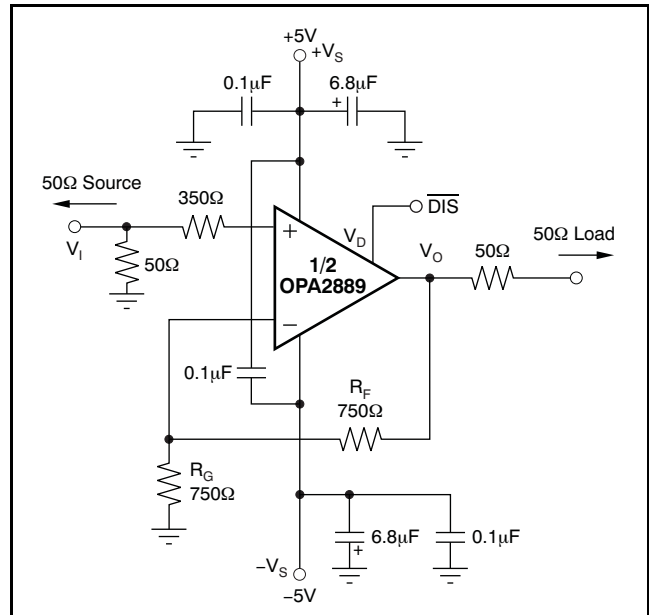
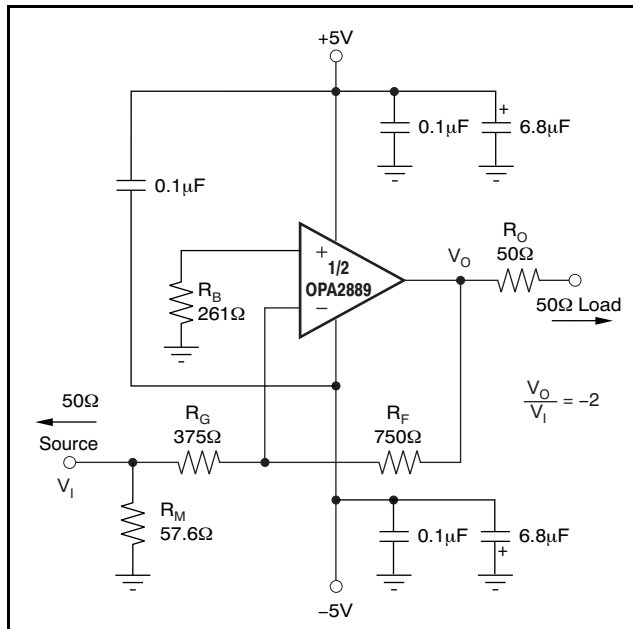

Figure 50. DC-Coupled, G = +2, Bipolar Supply, Specification and Test Circuit
Figure 60. Gain of $-2V/V$ Example Circuit
At $T_A = +25^\circ C$, $G = +2V/V$, $R_F = 750\Omega$, and $R_L = 100\Omega$, unless otherwise noted. See Figure 50.
Figure 50 shows the dc-coupled, gain of +2V/V, dual power-supply circuit configuration used as the basis of the ± 5 V Electrical Characteristics and ± 5 V Typical Characteristics. This illustration is for one channel; the other channel is connected similarly. For test purposes, the input impedance is set to 50 Ω with a resistor to ground and the output impedance is set to 100 Ω . Voltage swings reported in the Electrical Characteristics are taken directly at the input and output pins, while output powers (dBm) are at the matched 50 Ω load. For the circuit of Figure 50, the total effective load will be 100 Ω || 1.5k Ω . The disable control line (MSOP-10 package only) is typically left open for normal amplifier operation. Two optional components are included in Figure 50. An additional resistor (350 Ω) is included in series with the noninverting input. Combined with the 25 Ω dc source resistance looking back towards the signal generator, this resistor gives an input bias current cancelling resistance that matches the 375 Ω source resistance seen at the inverting input (see the DC Accuracy and Offset Control section). In addition to the usual power-supply decoupling capacitors to ground, a 0.1 μ F capacitor is included between the two power-supply pins. In practical printed circuit board (PCB) layouts, this optional-added capacitor typically improves the 2nd-harmonic distortion performance by 3dB to 6dB.
A good rule of thumb is to target the parallel combination of R_F and R_G (see Figure 50) to be less than approximately 400Ω. The combined impedance $R_F \parallel R_G$ interacts with the inverting input capacitance, placing an additional pole in the feedback network and thus, a zero in the forward response. Assuming a 2pF total parasitic on the inverting node, holding $R_F \parallel R_G < 400\Omega$ keeps this pole above 160MHz. By itself, this constraint implies that the feedback resistor R_F can increase to several kΩ at high gains. This increase in resistor size is acceptable as long as the pole formed by R_F and any parasitic capacitance appearing in parallel is kept out of the frequency range of interest.
Voltage-feedback op amps exhibit decreasing closed-loop bandwidth as the signal gain increases. In theory, this relationship is described by the Gain Bandwidth Product (GBP) shown in the Electrical Characteristics. Ideally, dividing GBP by the noninverting signal gain (also called the Noise Gain, or NG) predicts the closed-loop bandwidth. In practice, this principle only holds true when the phase margin approaches 90°, as it does in high gain configurations. At low gains (increased feedback factors), most amplifiers exhibit a more complex response with lower phase margin. The OPA2889 is compensated to give a slightly peaked response in a noninverting gain of 2V/V (see Figure 50). This compensation results in a typical gain of +2V/V bandwidth of 60MHz, far exceeding that predicted by dividing the 75MHz GBP by 2. Increasing the gain causes the phase margin to approach 90° and the bandwidth to more closely approach the predicted value of (GBP/NG). At a gain of +10, the 8MHz bandwidth shown in the Electrical Characteristics agrees closely with that predicted using the simple formula and the typical GBP of 75MHz.
The frequency response in a gain of +2V/V may be modified to achieve exceptional flatness simply by increasing the noise gain to 2.5V/V. One way to modify the response without affecting the +2V/V signal gain, is to add a 750Ω resistor across the two inputs, as shown in the circuit of Figure 50. A similar technique may be used to reduce peaking in unity-gain (voltage follower) applications. For example, by using a 750Ω feedback resistor along
The OPA2889 is a general-purpose, wideband, voltage-feedback op amp; therefore, all of the familiar op amp application circuits are available to the designer. Inverting operation is one of the more common requirements and offers several performance benefits. See Figure 60 for a typical inverting configuration where the I/O impedances and signal gain from Figure 50 are retained in an inverting circuit configuration.
In the inverting configuration, three key design considerations must be noted. The first is that the gain resistor (R_G) becomes part of the signal channel input impedance. If input impedance matching is desired (which is beneficial whenever the signal is coupled through a cable, twisted-pair, long PCB trace, or other transmission line conductor), R_G may be set equal to the required termination value and R_F adjusted to give the desired gain. This consideration is the simplest approach and results in optimum bandwidth and noise performance. However, at low inverting gains, the resultant feedback resistor value can present a significant load to the amplifier output. For an inverting gain of $-2V/V$, setting R_G to 50Ω for input matching eliminates the need for R_M but requires a 100Ω feedback resistor. This approach has the interesting advantage that the noise gain becomes equal to $2V/V$ for a 50Ω source impedance—the same as the noninverting circuits considered in Figure 60. The amplifier output, however, now sees the 100Ω feedback resistor in parallel with the external load. In general, the feedback resistor should be limited to the 200Ω to 1.5kΩ range. In this case, it is preferable to increase both the R_F and R_G values (see Figure 60), and then achieve the input matching impedance with a third resistor (R_M) to ground. The total input impedance becomes the parallel combination of R_G and R_M .
The second major consideration, touched on in the previous paragraph, is that the signal source impedance becomes part of the noise gain equation and influences the bandwidth. For the example in Figure 60, the R_M value combined in parallel with the external 50Ω source impedance yields an effective driving impedance of $50\Omega \parallel 57.6\Omega = 26.7\Omega$. This impedance is added in series with R_G for calculating the noise gain (NG). The resulting NG is $2.86V/V$ for Figure 60, as opposed to only $2V/V$ if R_M could be eliminated as discussed above. Therefore, the bandwidth is slightly lower for the gain of $-2V/V$ circuit of Figure 60 than for the gain of $+2V/V$ circuit of Figure 50.
The third important consideration in inverting amplifier design is setting the bias current cancellation resistor on the noninverting input (R_B). If this resistor is set equal to the total dc resistance looking out of the inverting node, the output dc error, as a result of the input bias currents, is reduced to $(\text{Input Offset Current}) \times R_F$. If the 50Ω source impedance is dc-coupled in Figure 60, the total resistance to ground on the inverting input is 402Ω.
The OPA2889 provides good distortion performance into a 200Ω load on $\pm 5V$ supplies. Relative to alternative solutions, it provides exceptional performance into lighter loads and/or operating on a single +5V supply. Generally, until the fundamental signal reaches very high frequency or power levels, the 2nd-harmonic dominates the distortion with a negligible 3rd-harmonic component. Focusing then on the 2nd-harmonic, increasing the load impedance improves distortion directly. Remember that the total load includes the feedback network; in the noninverting configuration (see Figure 50), this total is the sum of $R_F + R_G$, while in the inverting configuration it is just R_F . Also, providing an additional supply-decoupling capacitor ($0.1\mu F$) between the supply pins (for bipolar operation) improves the 2nd-order distortion slightly (3dB to 6dB). Operating differentially also lowers 2nd-harmonic distortion terms (see the plot on the front page).
Evaluating these two equations for the OPA2889 circuit and component values (see Figure 50) gives a total output spot noise voltage of 18.2nV/√Hz and a total equivalent input spot noise voltage of 9.1nV/√Hz. This total includes the noise added by the bias current cancellation resistor (350Ω) on the noninverting input. This total input-referred spot noise voltage is slightly higher than the 8nV/√Hz specification for the op amp voltage noise alone. This result is the case as long as the impedances appearing at each op amp input are limited to the
previously recommend maximum value of 400Ω. Keeping both ($R_F \parallel R_G$) and the noninverting input source impedance less than 400Ω satisfies both noise and frequency response flatness considerations. Because the resistor-induced noise is relatively negligible, additional capacitive decoupling across the bias current cancellation resistor (R_B) for the inverting op amp configuration of Figure 60 is not required.
The balanced input stage of a wideband voltage-feedback op amp allows good output dc accuracy in a wide variety of applications. The power-supply current trim for the OPA2889 gives even tighter control than comparable amplifiers. Although the high-speed input stage does require relatively low $\pm 0.75\mu\text{A}$ input bias current, the close matching between them may be used to reduce the output dc error caused by this current. The total output offset voltage may be reduced by matching the dc source resistances appearing at the two inputs. This matching reduces the output dc error resulting from the input bias currents to the offset current times the feedback resistor. Evaluating the configuration of Figure 50, and using worst-case +25°C input offset voltage and current specifications, gives a worst-case output offset voltage equal to: